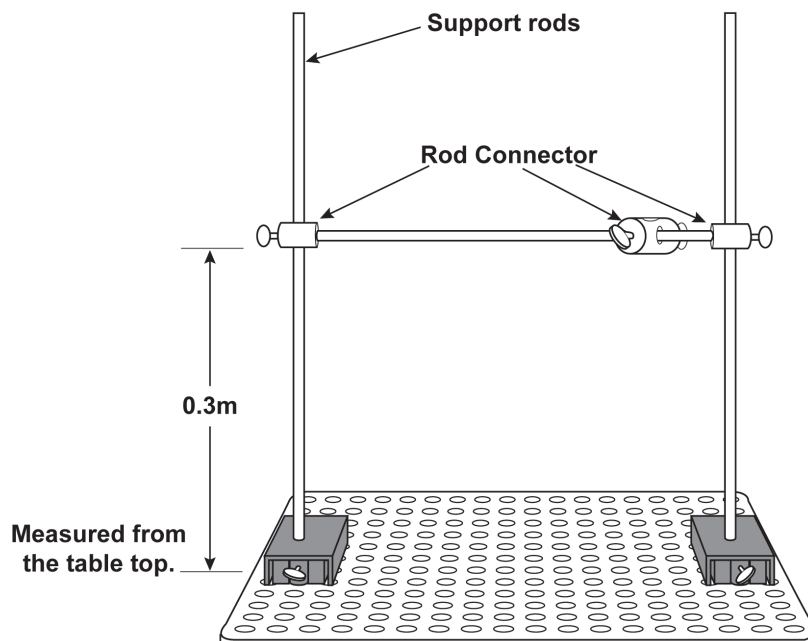

Figure 10
- ❑ 1. Set up the lab equipment as shown in Figure 10. Position the black bases along the second column of holes as Figure 10 shows.